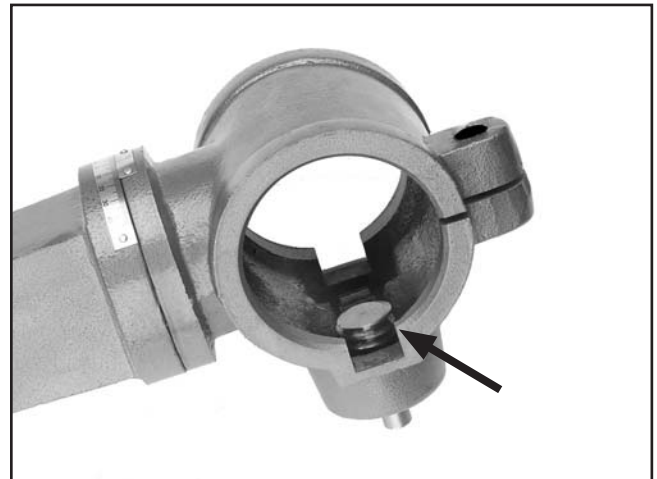

Figure 7. Pinion correctly installed in table support.
1. Check to make sure the pinion is inserted into the table support, as shown in **Figure 7**, so the pinion and gear teeth mesh together.